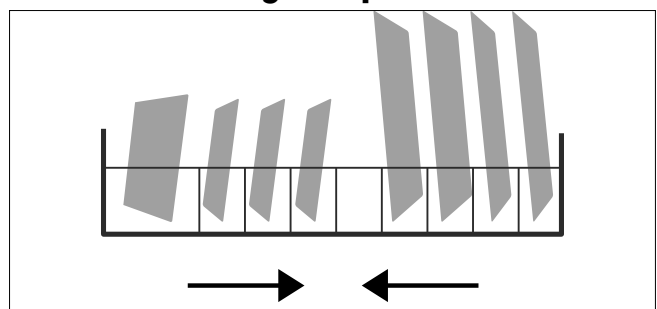

Fig. 16 – Loading dish rack
- ▶ Load the dish rack (6) as shown in the example in **Fig. 16**. The arrow shows the slide-in direction.